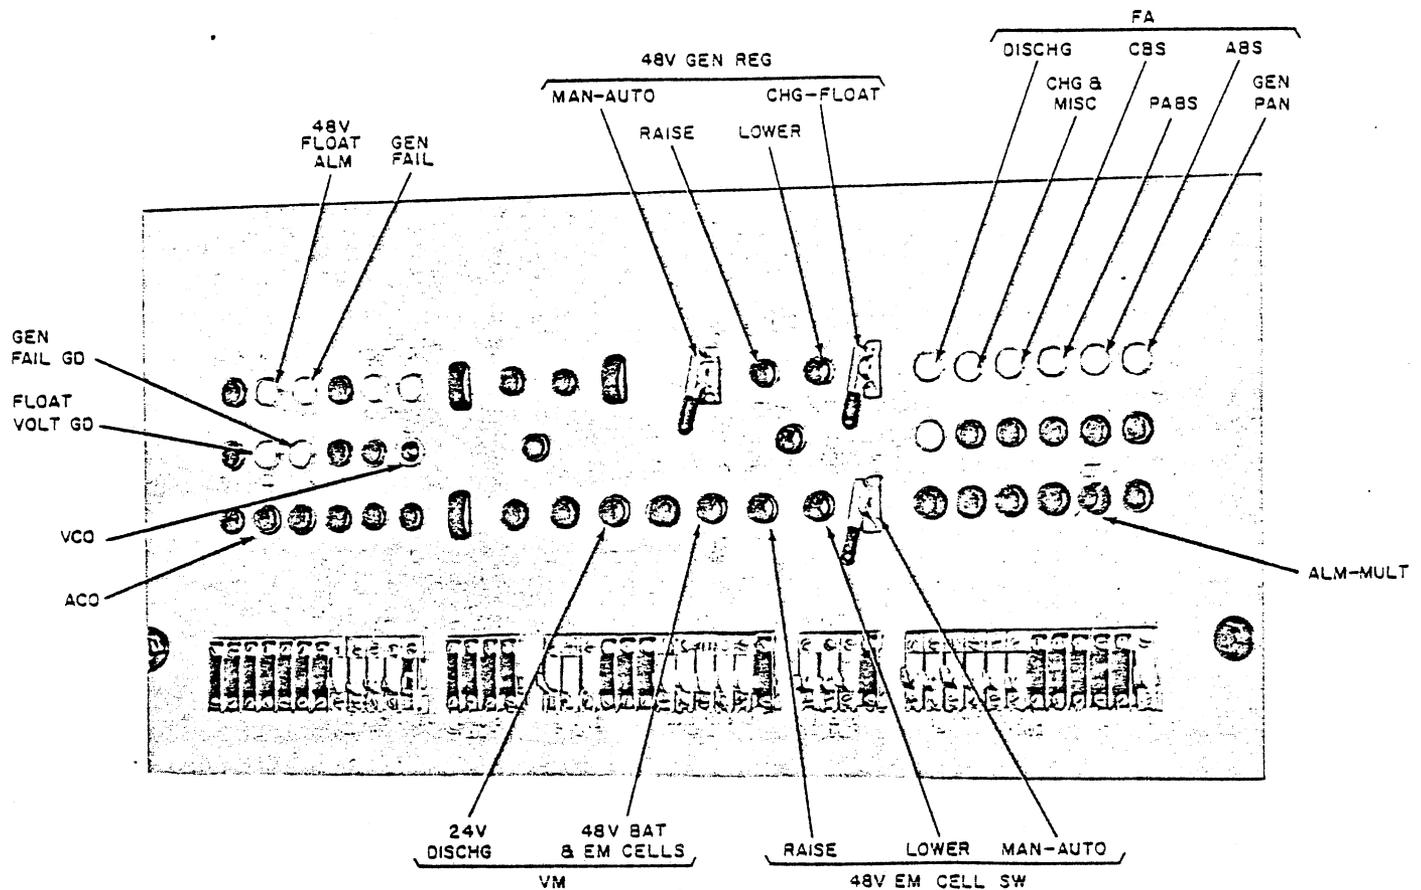

Fig. 1—Typical Main Control Board Panel Showing A Combined 24- and 48-Volt Plant Having a G Charging Unit
1.08 One bay of main control board is to be used for each power plant, which mounts the voltage, control, and alarm relays together with the fuses, lamps, and keys associated with the control and alarm circuits (see Fig. 1). Each main control board has equipment and control facilities for ten charging units for *each* voltage. The regulated rectifiers for trickle charging the emergency cells are also on the main control board, space being available for a maximum of five rectifiers.